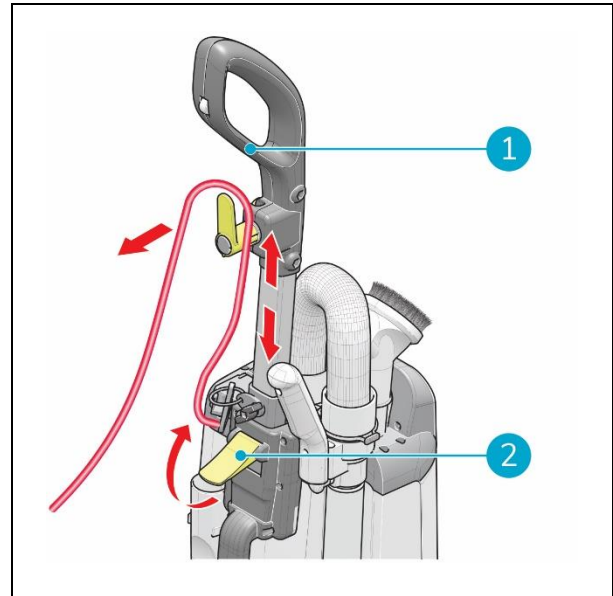

Figure 15
1. Release the latch (Figure 15, pos 2).
2. Adjust the height of the handle (Figure 15, pos 1) to a comfortable position.
3. Fasten the latch (Figure 15, pos 2).